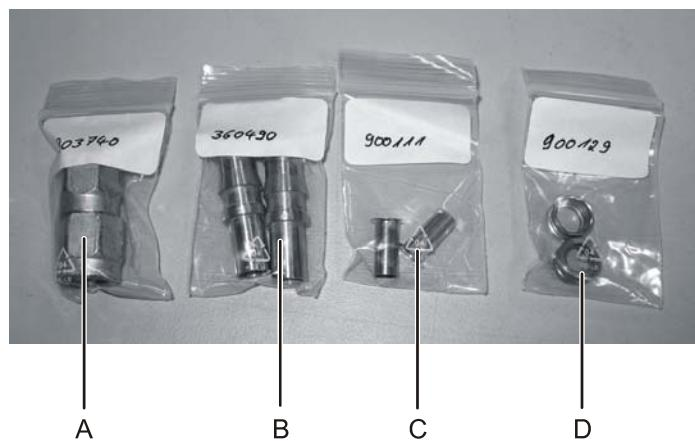

Figure 137: Supplied water connections
- 2 sets of water connection fittings (supplied with laser device, see Figure 137)
Key to Figure 137: